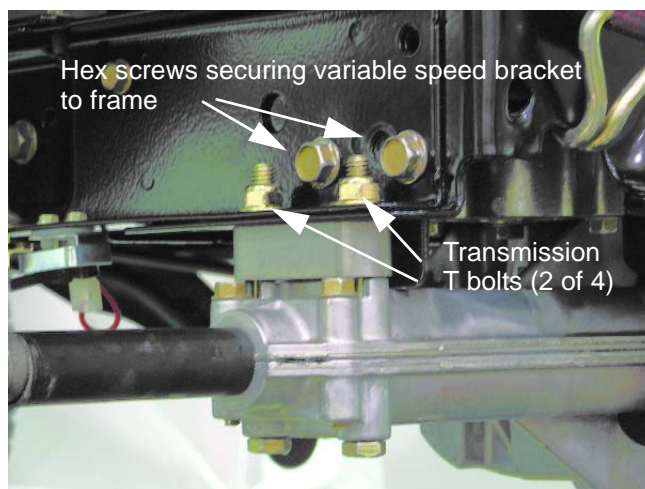

Figure 5.56
8. Remove the two hex screws securing the variable speed pulley bracket assembly to the left side of the frame. See Figure 5.56.